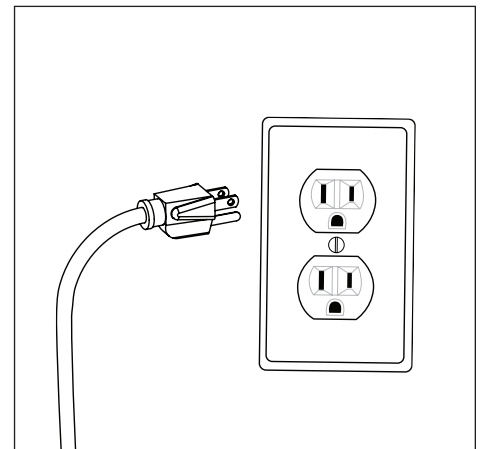

Figure 1.6
6. Plug the fan's power cord into a 120 V grounded outlet (Figure 1.6).